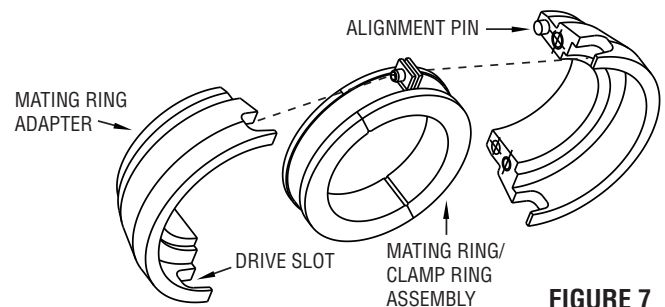

FIGURE 7
2. Assemble the mating ring adapter halves around the mating ring/clamp ring assembly. Engage the clamp ring tabs into the drive slots, match up the alignment pins, and loosely tighten the screws on each side of the mating ring adapter (see Figure 7).